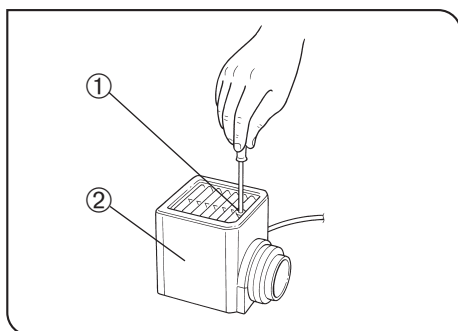

Fig. 49
3 Installing the Halogen Bulb (Figs. 49 to 51)
5. Slide the lamp housing cover onto the housing base from the above. Tighten the clamping screw ① while pressing downward on the cover. (Fig. 49)